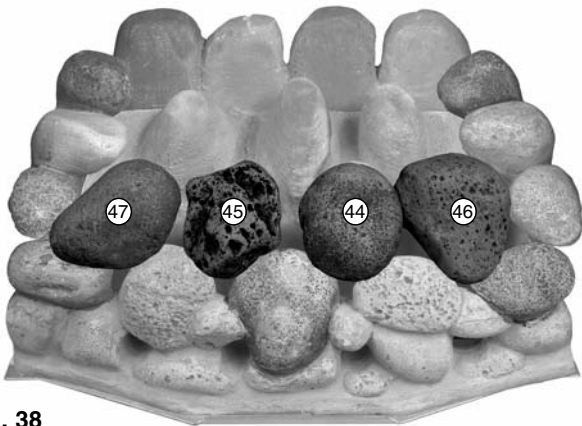

Fig. 38
5. Following Figs. 38 to 40, place the loose pebbles on to the fuel bed. It is important that the pebbles 'nest' together and sit on top of the fuel bed peaks.